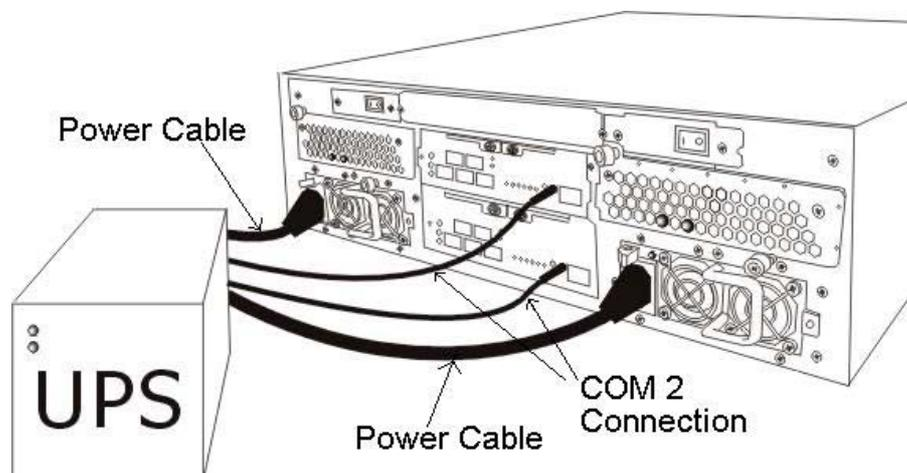
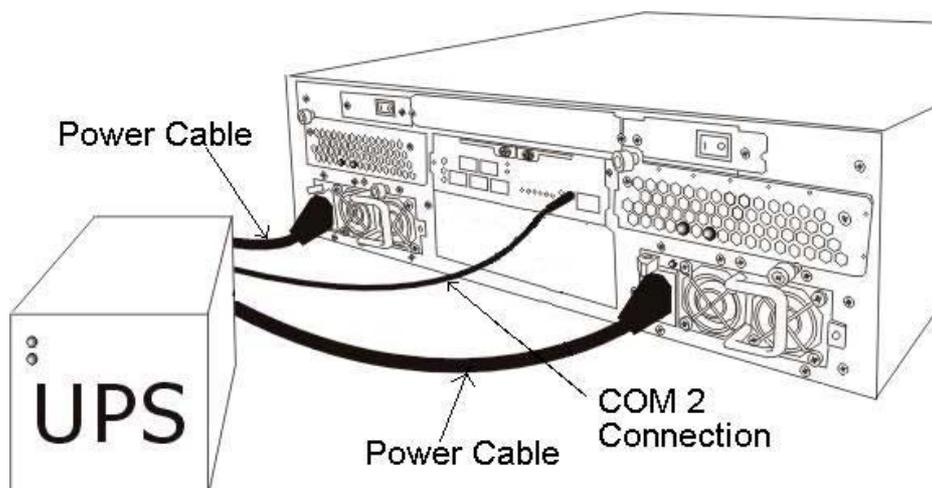

Figure B-2: Connecting the UPS to the ES A16F-R1211 Subsystem
Figure B-3: Connecting the UPS to the ES A16F-S1211 Subsystem
The two (2) power cords shipped with the subsystem must be plugged into the power cord sockets in the rear of the PSU modules. The plug at the other end of the power cable must be inserted into a socket on the UPS. (See **Figure B-2**) Please refer to the UPS manual to determine the location of these sockets. The UPS must then be connected to main power.
The separately purchased audio jack-to-DB9 serial cables are used to connect the COM2 ports on the controller modules to the UPS directly. (See **Figure B-2** and **Figure B-3**) These cables are used to transmit UPS status updates to the controller modules and will in turn determine the write policy of the controller module. To connect the serial communication cable to the subsystem controller, insert the audio jack connector on one end of the cable into the COM2 port on the controller module. To see how to connect the DB9 connector to the UPS, please refer to the documentation that came with your UPS.